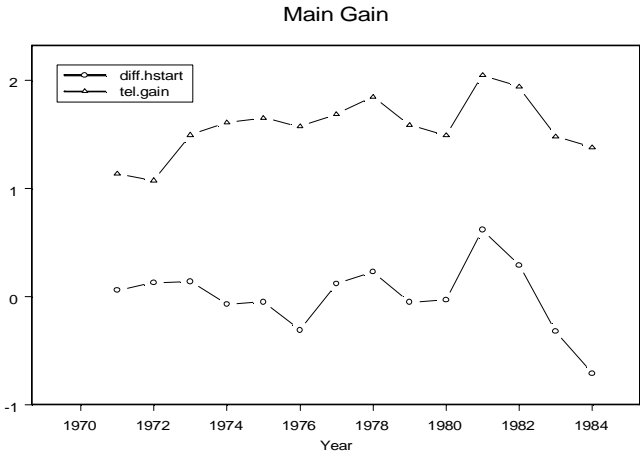

Figure 3.28: Yearly time series plot of tel.gain and diff.hstart.
- 5. Click the **Isolated Points** button  on the **Plots 2D** palette. The resulting plot is shown in Figure 3.28.